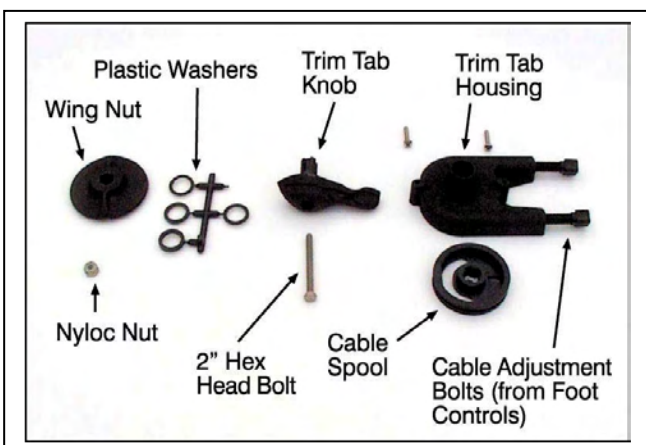

Fig. 2 – Trim Tab parts
a. Disconnect rudder control cables from rudder. Thread them completely through kayak shell and out of the Toe Pilot Foot Controls. The rudder control cables exit the Foot Controls from the Cable Adjustment Knob (Fig. 2) located on the aft of the Foot Control unit.